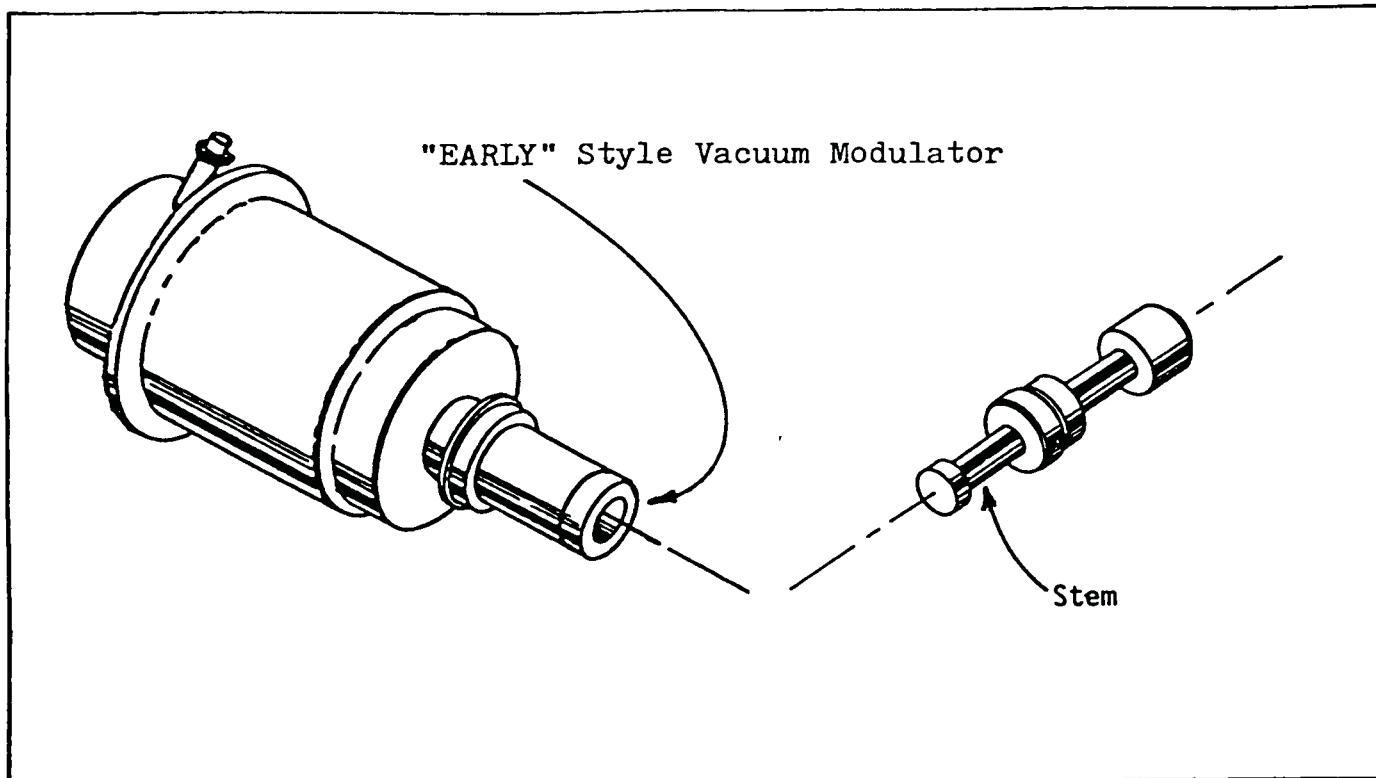

Figure 112
1. There are currently two different types of modulators, and modulator valves, as shown in Figures 112 and 113. Be certain that you have compatible parts together.